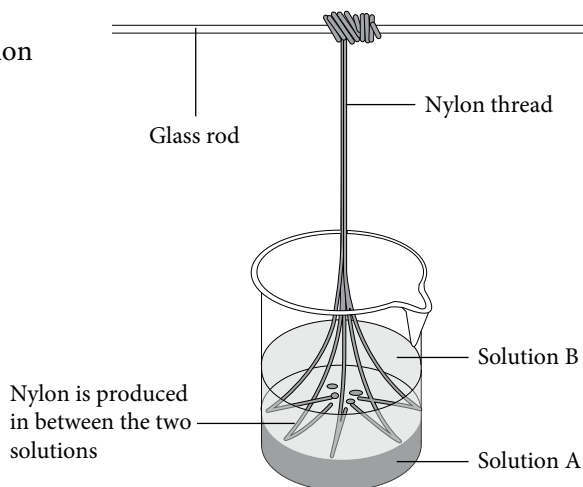

Figure 4.5
4. Pull the layer formed between the two solutions using a tweezer and coil it around the glass rod as shown in Figure 4.5.